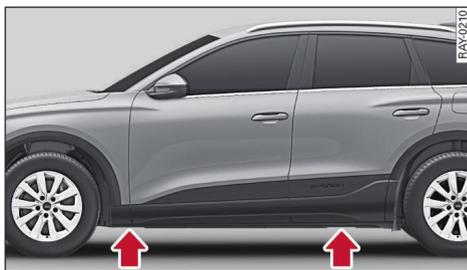

Fig. 137 Sills: markings
- ▶ Locate the marking on the door sill closest to the wheel being changed ⇒ Fig. 137. The jacking point is located behind the marking on the door sill.